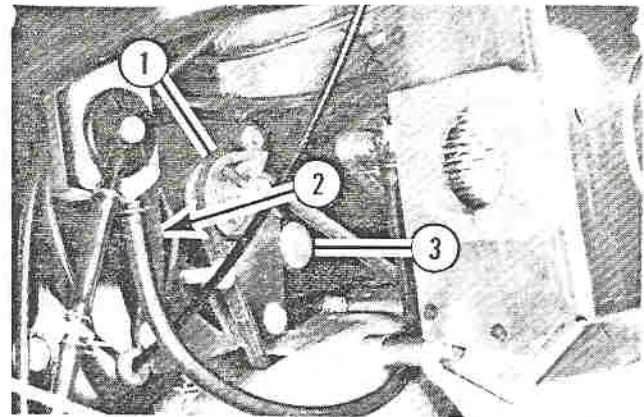

Fig. 8
2. If the starter belt "squeals" during the starter drive engagement, the belt must be tightened. To adjust, first remove the plug (Figure 8) and loosen the pivot screw. Then loosen the adjusting screw and pivot the starter up for adjustment. Retighten adjusting screw. To check the belt adjustment, run the engine at full r.p.m. If the belt rotates or creeps with the flywheel, the belt is too tight and must be loosened.